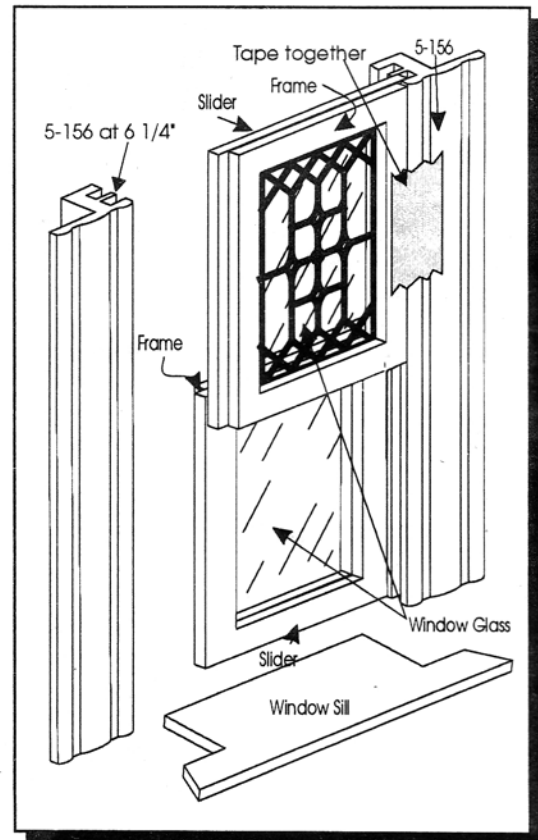

Figure 16
2. Because there are so many parts, it is best to read through the entire instructions to determine which parts go where. Also use the label picture as a guide for part location. Note the windows are different on the inside than the outside. See Figure 16.
10. Continue this process for all frame and slider parts. Notice that on the upper windows with the patterned glass the Frames face the outside and the Sliders face the inside and on the bottom Frame/Slider assemblies, the Frames face the inside and the Sliders face the outside. See Figure 16.
11. Install Window Sills and Top and Bottom Frame/Slider assembly sets in 6 1/4" long 5-156 moldings. See Figure 16.